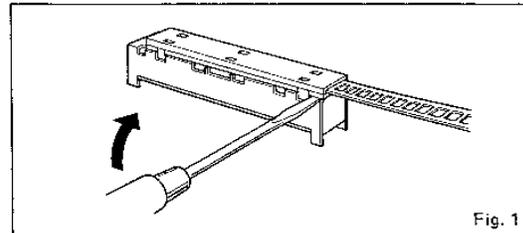

Fig. 1
- 2) Disconnect all lead wire connectors, and then all on-board switch flexible wires with a standard screwdriver (see Fig. 1).
- 3) Then after removing screws ③ to ⑬ shown in Photo 4, the function c. board may be removed.